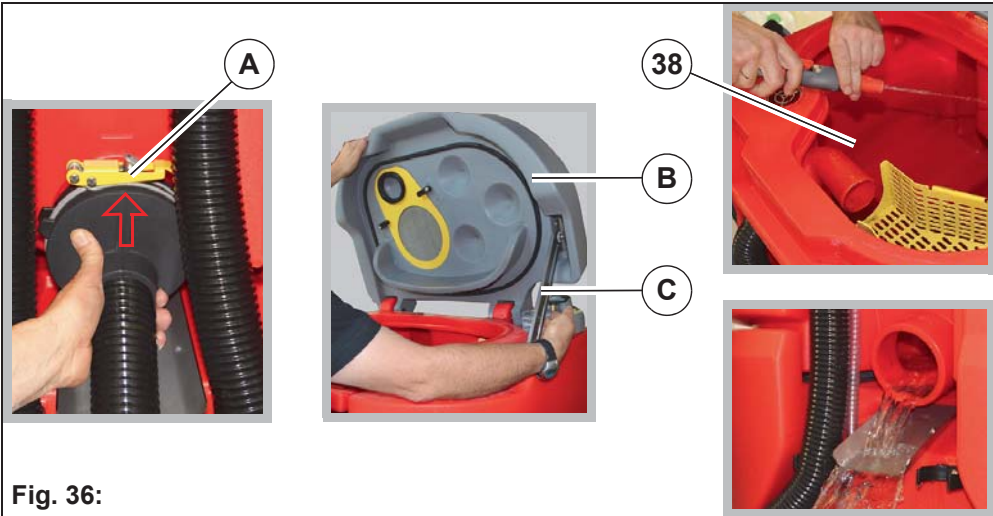

Fig. 36:
2. Open fastener at drain hose **Fig. 36-A** and remove hose.
3. Open the tank cap **Fig. 36-B** of the waste water tank.
- Open the tank cap until the support **Fig. 36-C** engages.
4. Clean the waste water tank thoroughly with the water hose/spray nozzle **Fig. 36-D**.
- Release the support **Fig. 36-B** with your right hand and close the tank cap.